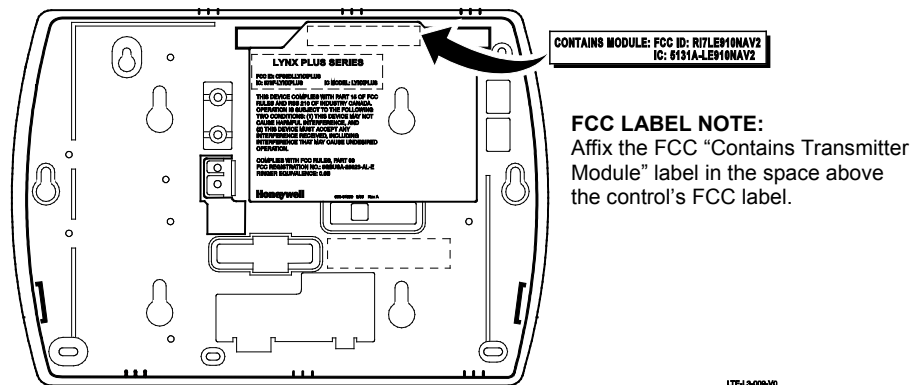

Figure 2 – FCC/IC Label location (LTE-L3A label shown)
1. Install the FCC/IC label (provided) on the control's back case as shown on Figure 2.